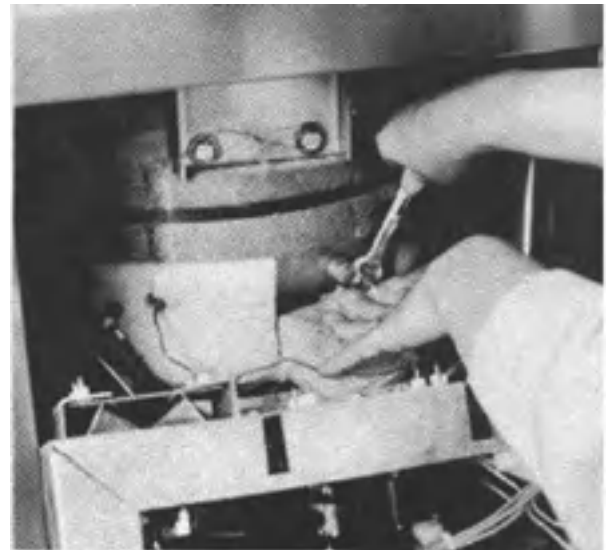

FIG. 8
6. Pull down top edge of insulation and remove compression nut securing probe assembly to cooking vessel (See Figure 8).